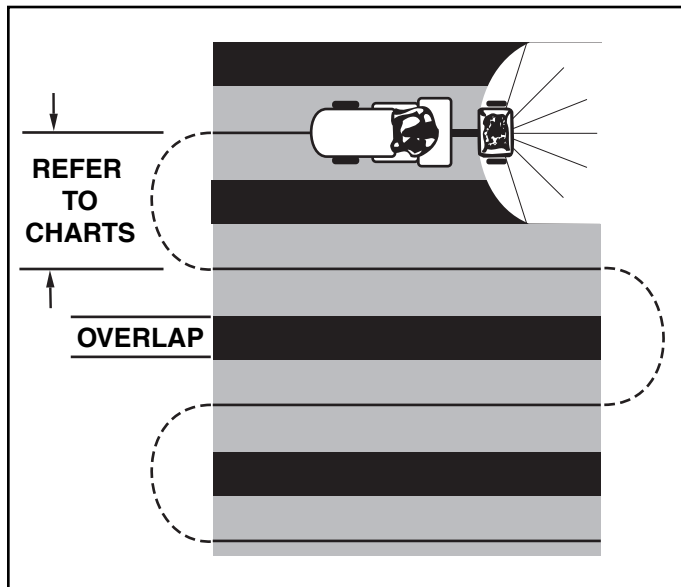

FIGURE 19
9. To insure uniform coverage, make each pass so that the broadcast pattern slightly overlaps the pattern from the previous pass as shown in figure 19. The approximate broadcast widths for different materials are shown in the *Application Diagram* figure 19.